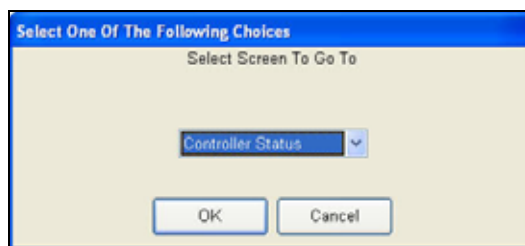

Figure 7.2.10
- Click on the **DOWN** arrow to view the different screen selections. Click **OK** (Figure 7.2.10).